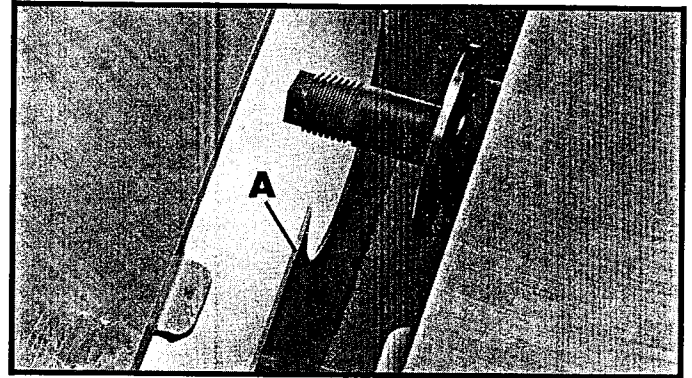

Fig. 1
4. Unscrew the (4) slot head screws and remove the side plate cover (A) Fig. 1, which is done thru the rear of the machine.